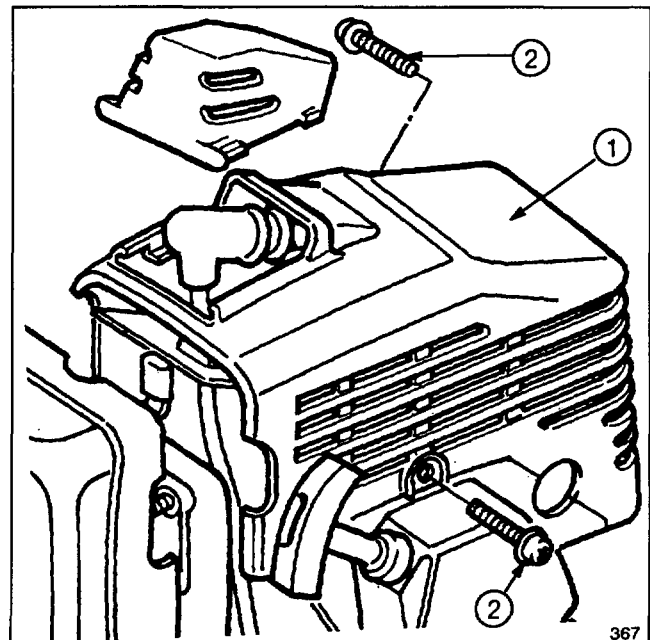

Figure 13
SERVICING MUFFLER (Figs. 13 & 14)
1. Remove two (2) screws securing engine cover to trimmer (Fig. 13).